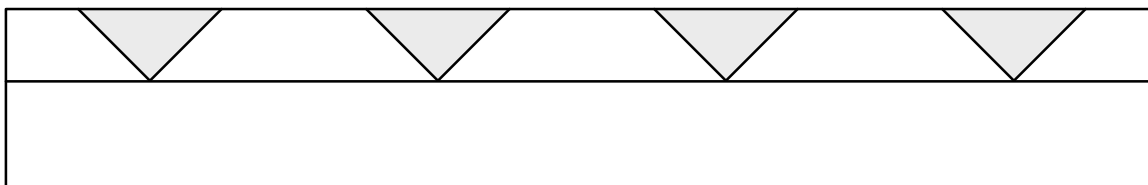

Figure 14
Steps 1–4 for a piece M for 4 trees (24" long) should give you figure 14.
5. Cut out the triangles you've marked (shaded sections of figure 14):